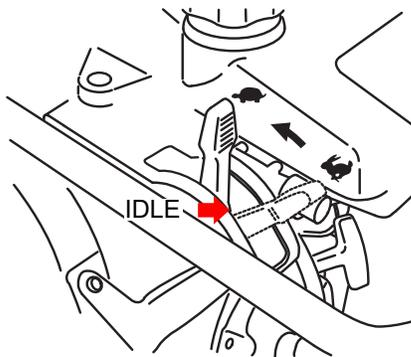
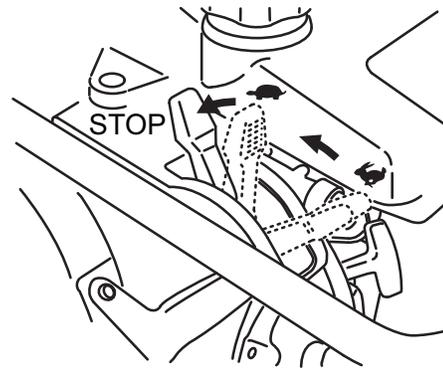

Figure 6. Throttle Lever (Idle Position)
Figure 11. Throttle Lever (Stop Position)
1. Slide the throttle lever from the stop to the idle position (☛) (Figure 6). This opens the fuel cock and the engine electrical circuit is turned on automatically.
3. To stop the tamping action, move throttle lever quickly from **START** to **IDLE** position (Figure 6).
1. Move throttle lever quickly from the **START** to **IDLE** position (Figure 6) and run the engine for three minutes at low speed. After the engine **cools**, move the throttle lever to the **STOP** position (Figure 11). The engine will stop and the fuel cock is automatically closed.